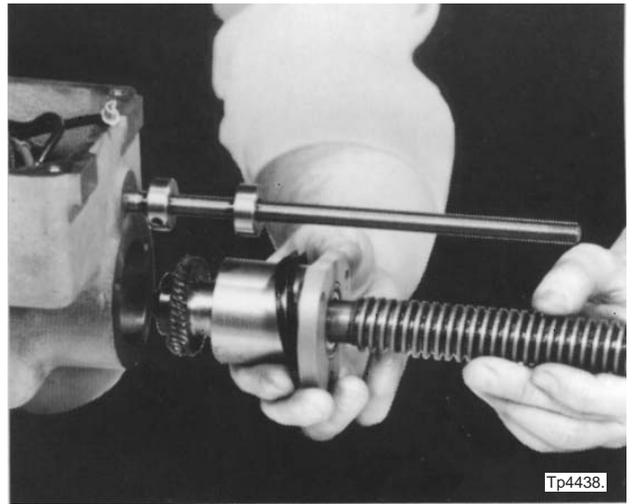

Figure 3.32 - Vertical Feed Screw Removal
On some machine models the worm wheel has been replaced with a straight tooth wheel and the shims shown in Figure 3.32 are not required.
14. Replace the vertical screw assembly, as shown in Figure 3.32 .